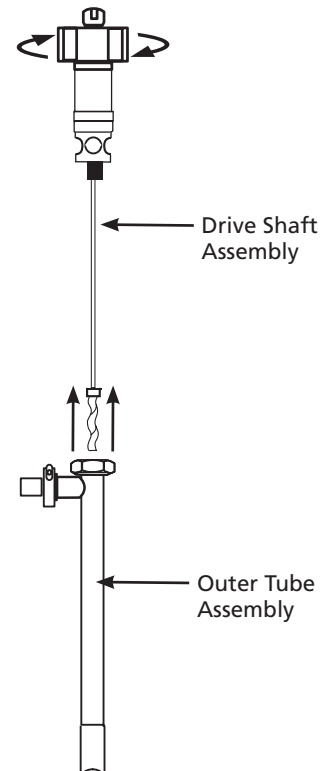

Figure 6
5. Once the Hex Nut is loosened, remove the outer tube from the drive shaft assembly (see Figure 6).
- Once Bearing Housing, drive shaft, and rotor are securely threaded together, insert this assembly into the pump body (see Figure 6, page 23).